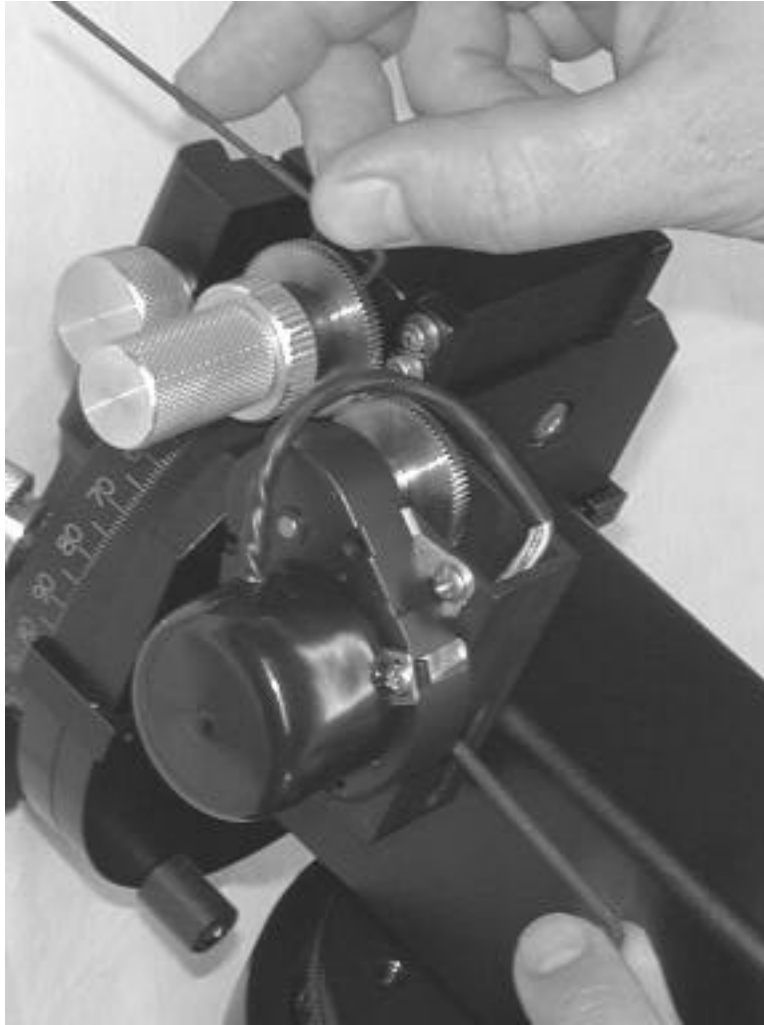

Figure 2
Step 2: Remove both Celestron RA and Dec drives (use medium sized Allen key wrench). Note (bottom of figure 2) that the screws to remove are inside the motor/gear assemblies and accessible through the slot in the bottom of the drive's mounting box.
Step 3: Using the small sized Allen key, remove the Celestron slow-motion knob and attached clutch (top of figure 2). These components will not be used once the SkyWalker-Servo retrofit kit is installed.